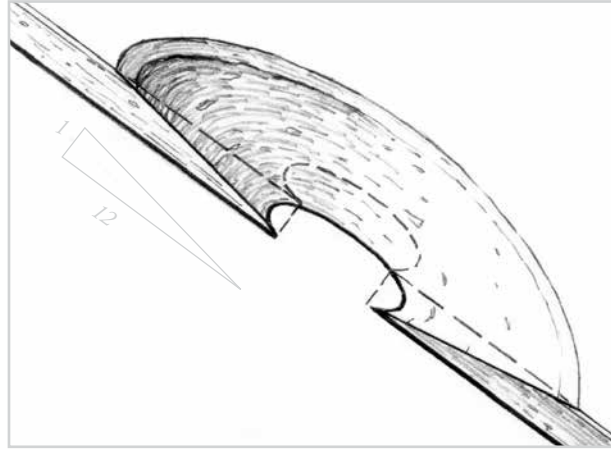

Figure 4-1 Grind a minimum 12-to-1 bevel around the edge of the excavated hole, whether the damage extends partially or completely through the skin.
2. Grind a bevel around the edge of the repair area to create a bonding area for the patch that will keep the patch flush with the skin's surface. A minimum 12-to-1 bevel is required to assure the transfer of loads across the repair area (Figure 4-1). For example, if you are left with a hole through a $\frac{1}{4}$ " (6 mm)-thick laminate, the outer edge of the bevel will extend 3" (75 mm) from the inside edge of the hole. If the skin is very thin, a longer bevel angle is required.